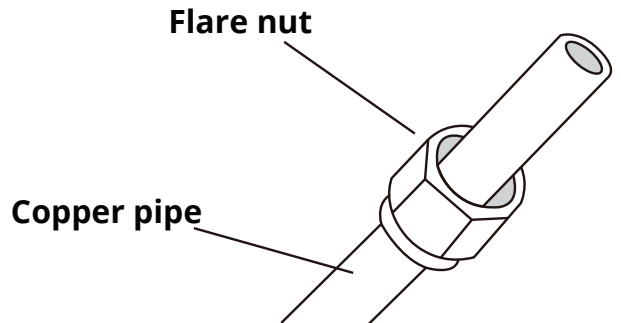

Fig. 2.11
2. Remove the cut-off valve of the outdoor unit and take out the flare nut from the bag of indoor unit accessories. Fit the flare nut on the pipe. See **Fig. 2.11**.